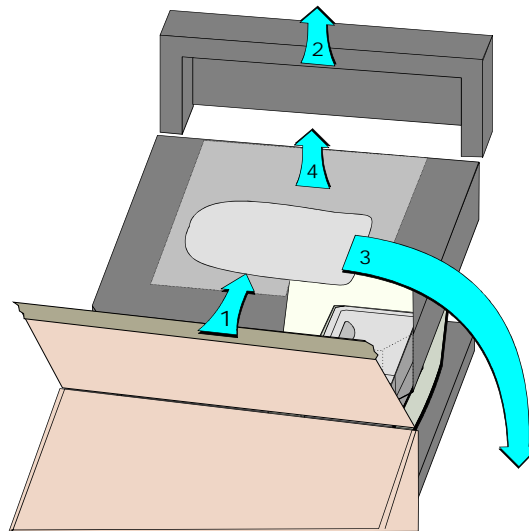

Figure 1-2: Remove the printer from the shipping carton
- 4 Slide the printer and packing material out of the shipping carton (step 1 in Figure 1-2).
- 5 Remove the back shipping cushion (step 2 in Figure 1-2).
- 6 Remove the accessory bag (step 3 in Figure 1-2). Remove this User's Guide from the bag.
- 7 Remove the top shipping cushions (step 4 in Figure 1-2). Set the shipping cushions aside.